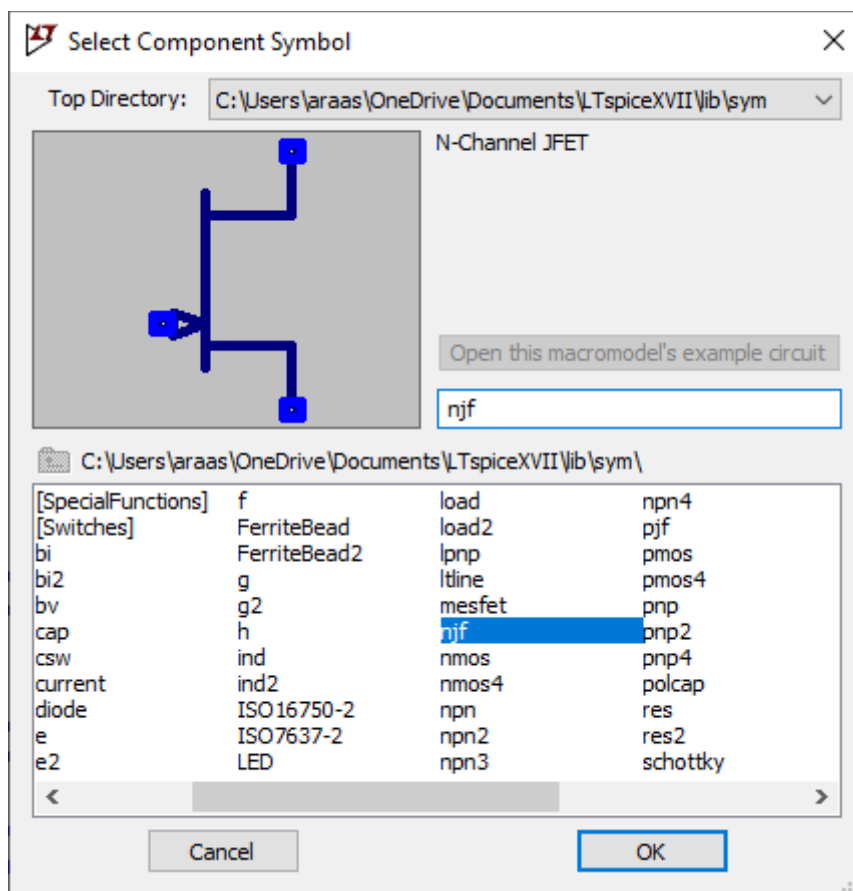

Fig. 1. N-Channel JFET
2. Search for **njf** (N-channel JFET) as in Fig. 1.